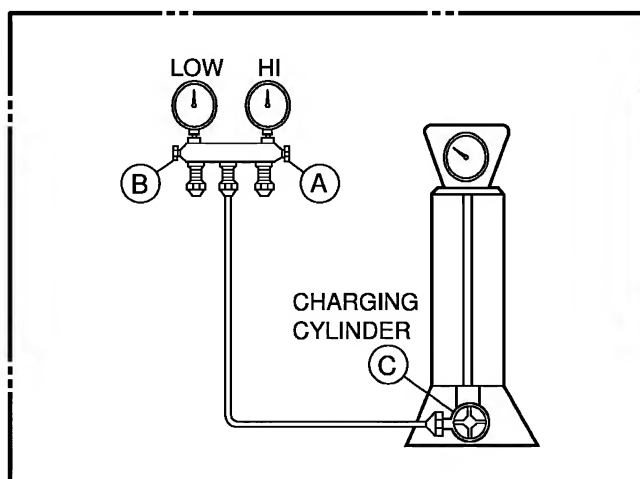

Figure 31B-Charging
- 4) Remove the hose from the vacuum pump and place it on the charging cylinder. See Figure 31B. Open valve C.
- 2) Connect the charging cylinder as shown in Figure 31B.